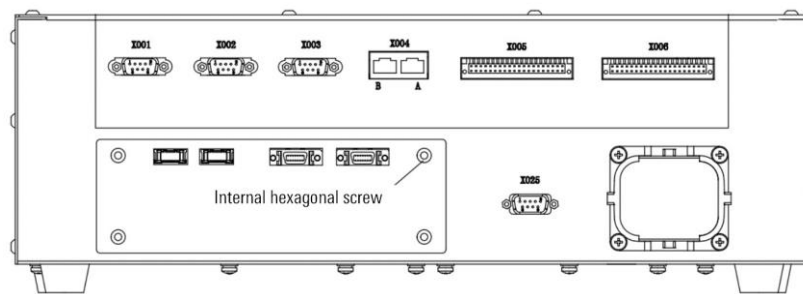

Figure 2-14 ARCCD20-diagram after installing the gusset plate and fixing the sheet metal
Step4. Use 4 hexagonal socket screws removed in step 1 to fix the ② ARCCD20-mounting plate sheet metal to the rear panel, refer to Figure 2-14.